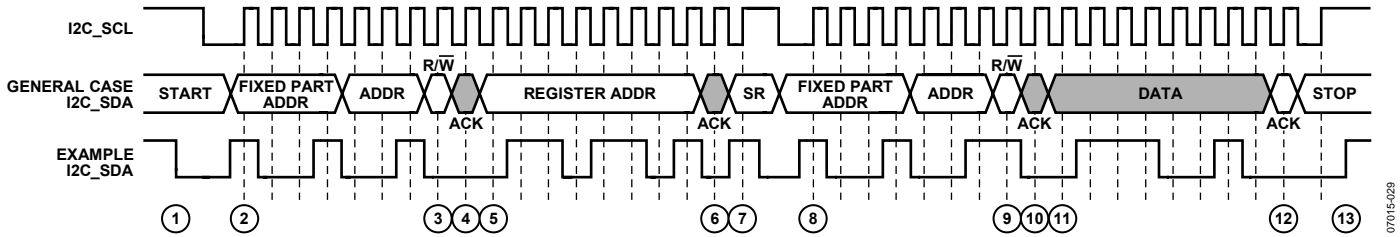

Figure 30. I2C Read Diagram
To read data from the AD8197B register set, an I2C master (such as a microcontroller) needs to send the appropriate control signals to the AD8197B slave device. The signals are controlled by the I2C master, unless otherwise specified. For a diagram of the procedure, see Figure 30. The steps for a read procedure are as follows:
9. Send the read indicator bit (1).
- 13a. Send a stop condition (while holding the I2C\_SCL line high, pull the SDA line high) and release control of the bus to end the transaction (shown in Figure 30).